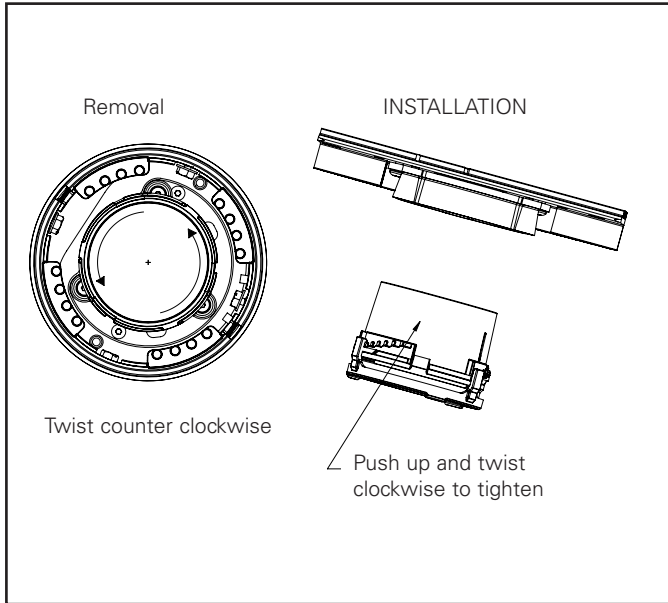

Figure 14A.
3. Remove the optic (see figure 14A).